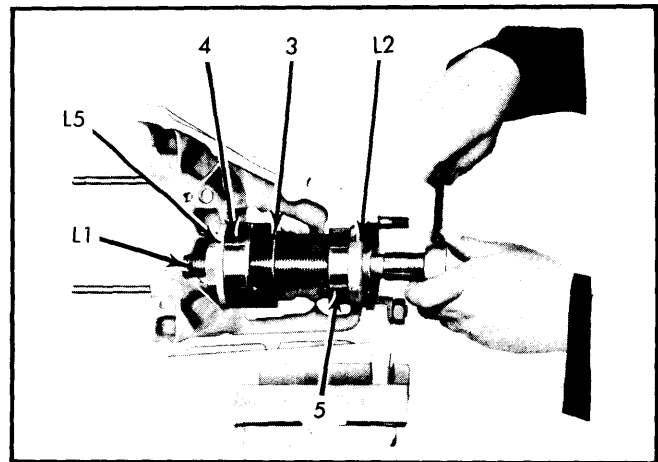

Fig. 10 Installing Drive Pinion Bearing Outer Race
3) Place forward half of carrier housing in holding fixture in vise so that housing is in horizontal position. Using special puller-driver, install thrust washer 3, outer bearing races 4 and 5 (back to back) into housing. Use bolt L1, thrust plate L2 and nut L5. Tighten bolt head of L1 to 101 ft. lbs. (14 mkg). Oil bearings with Esso Extra Oil 20 W 30/40. See Fig. 10.